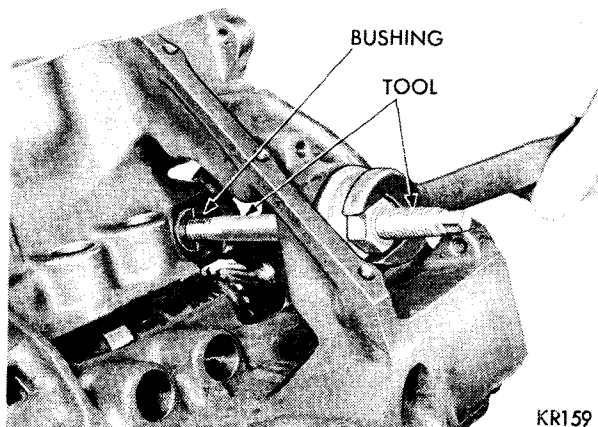

Fig. 22—Removing Distributor Drive Shaft Bushing
- (1) Insert Tool C-3052 into old bushing and thread down until a tight fit is obtained.
- (2) Hold puller screw and tighten puller nut until bushing is removed (Fig. 22).